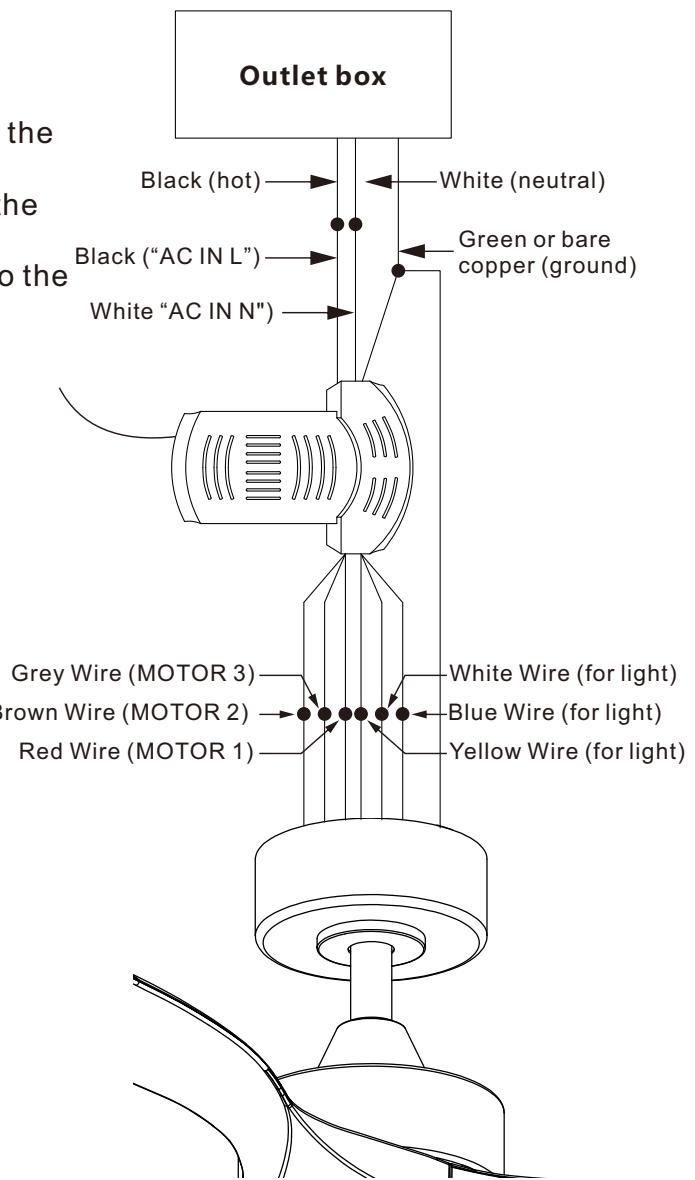

Figure 16
Motor to Receiver Electrical Connections: (Fig. 16)
Step 2. (Fig. 16) Receiver to House Supply Wires Electrical Connections:
Step 3. (Fig. 16) If your outlet box has a ground wire (green or bare copper) connect it to the fan ground wires and the receiver ground wire; otherwise connect the hanging bracket ground wire to the fan and the receiver ground wire. Secure the wire connection with a plastic nut provided. After connecting the wires, spread them apart so that the green and white wires are on one side of the outlet box and other wires are on the other side. Carefully tuck the wire connections up into the outlet box.